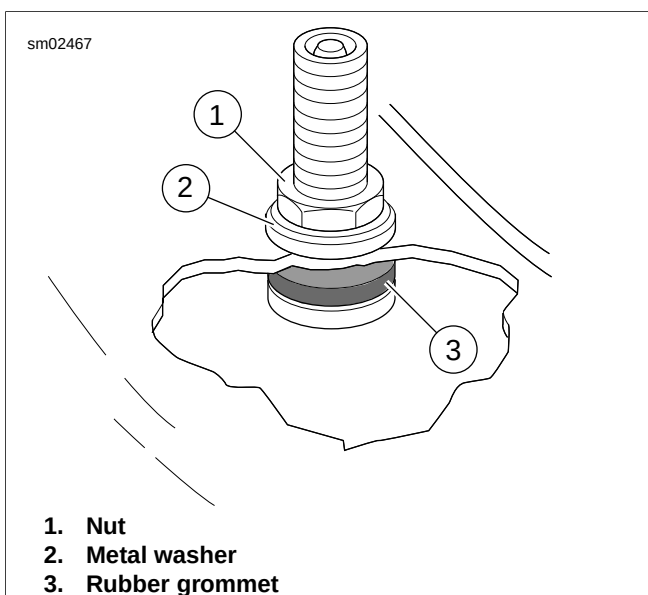

Figure 2-155. Tubeless Tire Valve Stem
1. See Figure 2-155. On tubeless wheels, damaged or leaking valve stems must be replaced. Install rubber grommet (3) on valve stem.
3. Install metal washer (2).